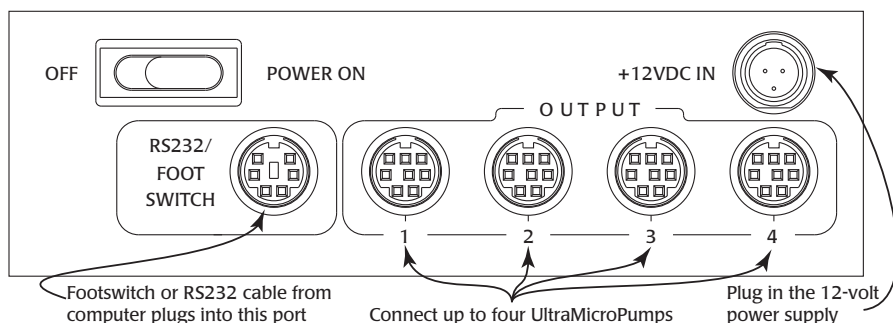

Fig. 5—On the rear panel of the Micro4 controller, connect the footswitch, up to four UMP3 pumps and the 12V power supply.
Plug the **UltraMicroPump** cable into an output socket on the back of the **Micro4** controller (Fig. 5). Be sure to align the notch on the cable connector with top of the port on the back of the **Micro4**. Up to four pumps may be connected and independently controlled.
1. Plug the 12-volt power supply into the rear panel of the **Micro4** (Fig. 5).